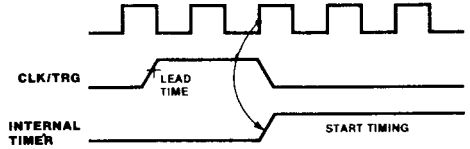

Figure 11. Timer Mode Timing
**Timer Operation.** In the timer mode, a CLK/TRG pulse input starts the timer (Figure 11) on the second succeeding rising edge of CLK. The trigger pulse is asynchronous and it must have a minimum width. A minimum lead time (210 ns) is required between the active edge of the CLK/TRG and the next rising edge of CLK to enable the prescaler